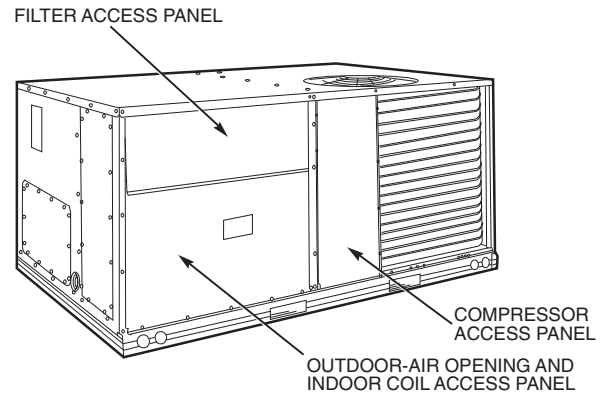

Fig. 13 — Typical Access Panel Locations
1. To gain access to the hood, remove the filter access panel. See Fig. 13.